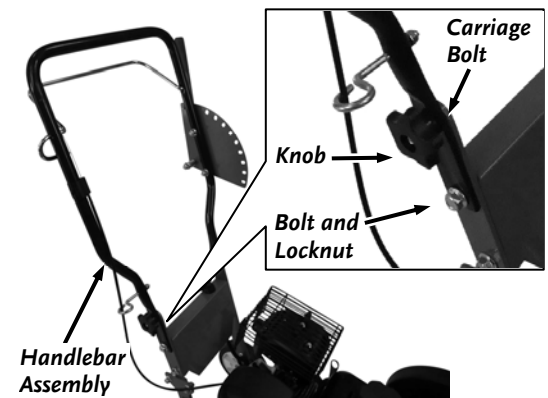

Figure 5
2. Position the Handlebar onto the Frame Plates and secure at the top holes with two Knobs and Carriage Bolts (Figure 5).